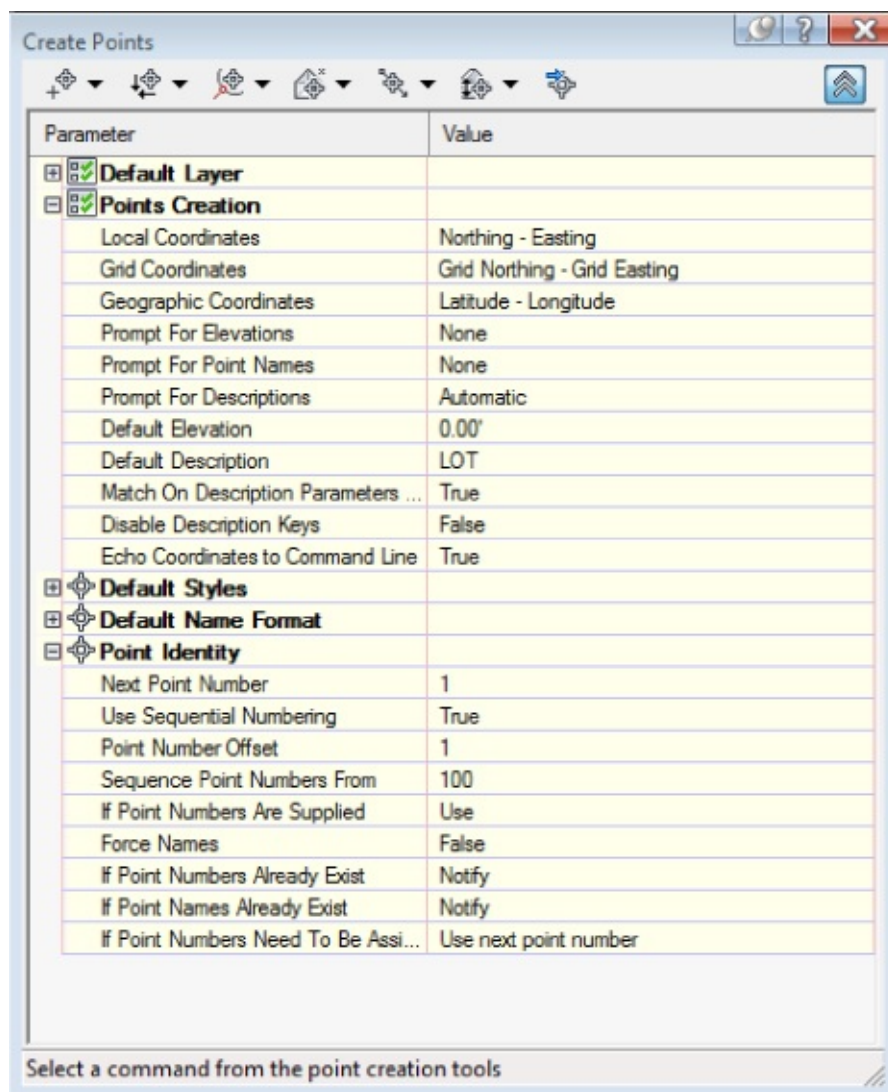

Figure 3.16 Point-creation settings in the Create Points dialog
6. Enter LOT for Default Description (see Figure 3.16).